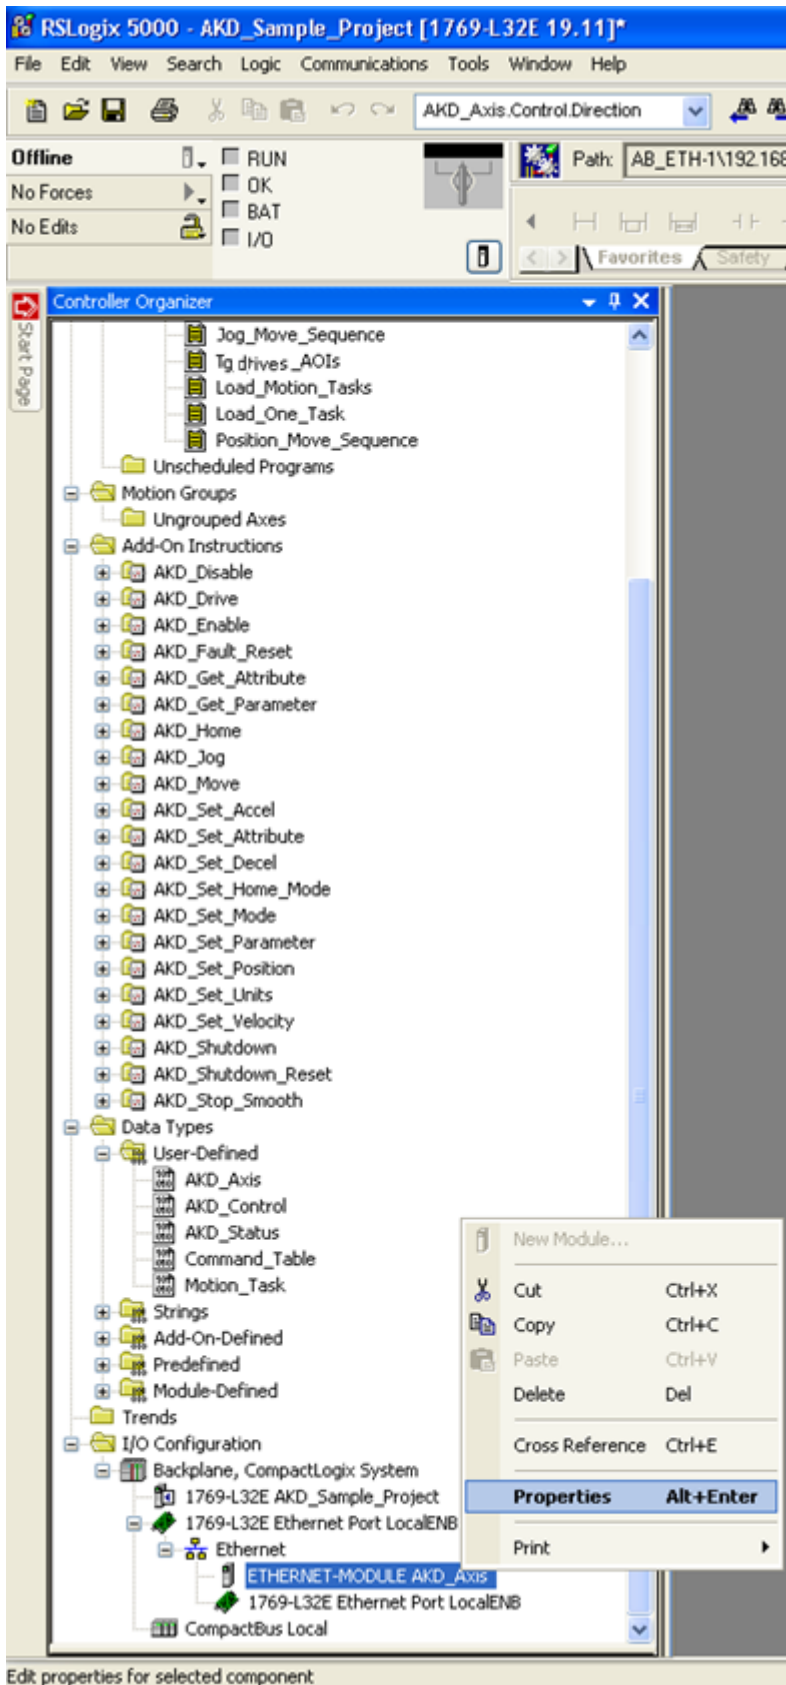

Figure 4-3: Opening Ethernet Module Properties
- Next, open the Ethernet-Module setup for the axis' communications by right clicking on "ETHERNET-MODULE AKD_Axis" in the "I/O Configuration" tree under the Ethernet port (Figure 4-3: Opening Ethernet Module Properties).